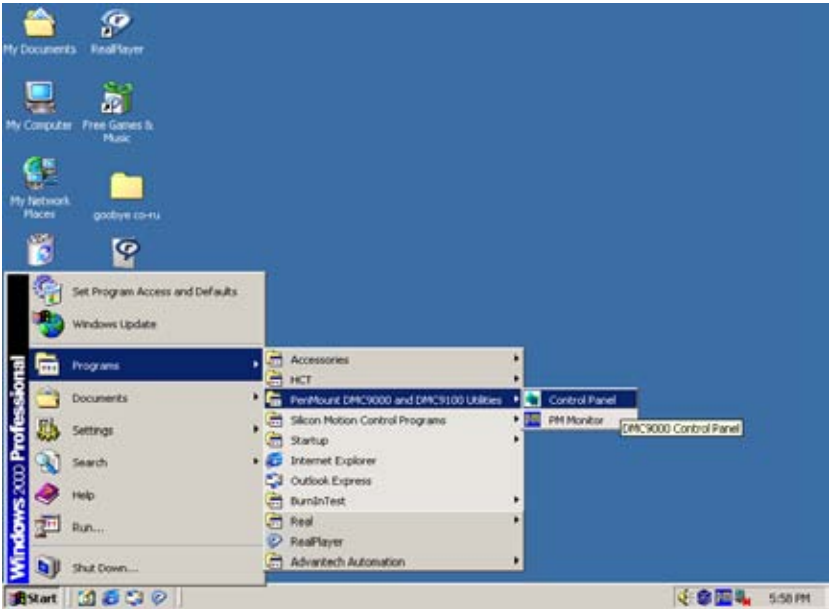

Figure 2.5: Touchscreen Calibration - 1
Step 6: Calibrate the touchscreen. Please go to “Start” → “Programs” → “PenMount DMC9000 Utilities” → “Control Panel” as the figure 2.5. Then, click the tab “Calibrate” to calibrate by selecting the standard calibration or advanced calibration.